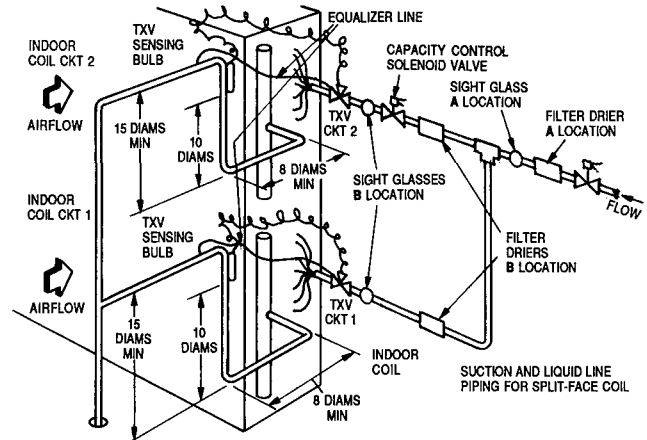

Fig. 3 — Locations of Sight Glass(es) and Filter Drier(s)
INSTALL FILTER DRIER(S) AND MOISTURE INDICATOR(S) — Every unit should have a filter drier and liquid-moisture indicator (sight glass). In some applications, depending on space and convenience requirements, it may be desirable to install 2 filter driers and sight glasses. One filter drier and sight glass may be installed at A locations in Fig. 3. Or, 2 filter driers and sight glasses may be installed at B locations.
INSTALL LIQUID LINE SOLENOID VALVE — SOLENOID DROP — It is recommended that a solenoid valve be placed in the main liquid line (see Fig. 3) between condensing unit (38AE) and fan coil (40RR, 40RE). This valve prevents refrigerant migration (which causes oil dilution) to the compressor during the off cycle at low outdoor ambient temperatures. The solenoid should be wired in parallel with the compressor contactor coil. This means of electrical control is referred to as solenoid drop control.
INSTALL LIQUID LINE SOLENOID VALVE (OPTIONAL) — CAPACITY CONTROL — If 2-step cooling is desired, place a solenoid valve in the location shown in Fig. 3.